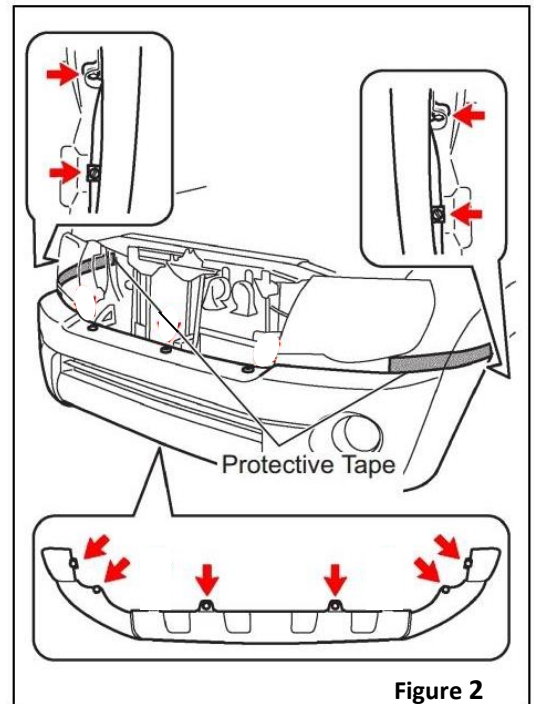

Figure 2
6. Next, prepare to remove the front bumper cover. Start by applying some protective tape to the outer circumference of the front bumper cover as shown in **Figure 2** at right.
7. Remove 8 screws shown in **Figure 2** (6 along the bottom edge of the bumper cover, and 1 in each wheel well inside a "D" shape opening).
8. Carefully remove the two remaining clips with a Flat-Head screwdriver (1 in each wheel well as shown in **Figure 2**). The plastic clip looks like a Flat-Head screw. Turn the clip 90 degrees, then carefully pry the head of